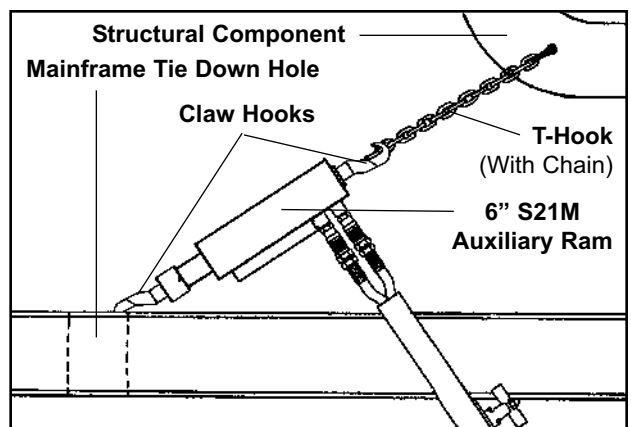

Figure 3
**EXAMPLE:** Figure 3 shows an auxiliary ram assembly making an angular down pull on a rail. A T-hook (with chain) was used in the assembly.